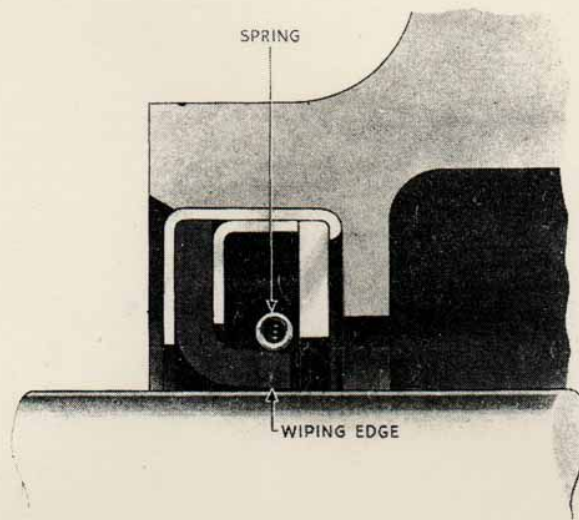

FIG.1. SECTION THROUGH OIL SEAL IN POSITION.
- i. Assemble the wiping edge or lip of the sealing member towards the bearing in which the lubricant is to be retained, as shown in Fig. 1.